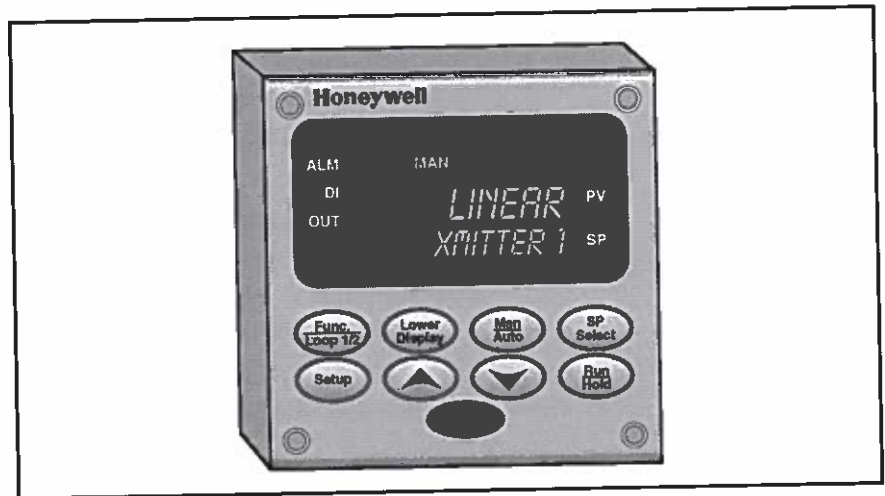

Figure 36. XMITTER Parameter Set to LINEAR
- E. Press the **Func Loop 1/2** key to move to the next parameter in the group, XMITTER1, as shown in figure 36.
- This parameter describes the type of transmitter. It should be set to LINEAR, as also shown in figure 36. This indicates that the sensor output varies linearly with the input.